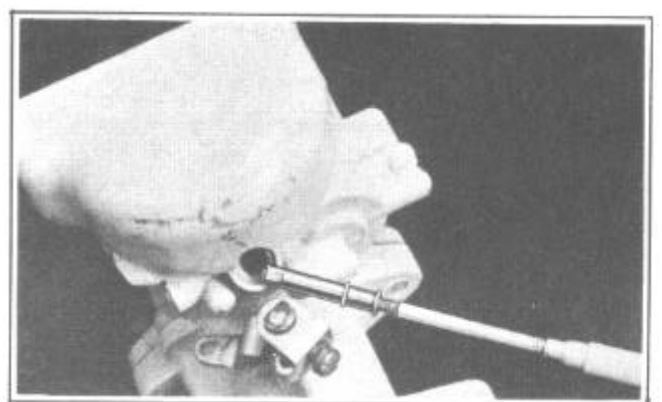

FIGURE 23
9. Remove nozzle passage plug, nozzle retainer plug and nozzle, Figure 23. (Be sure to remove small nozzle)